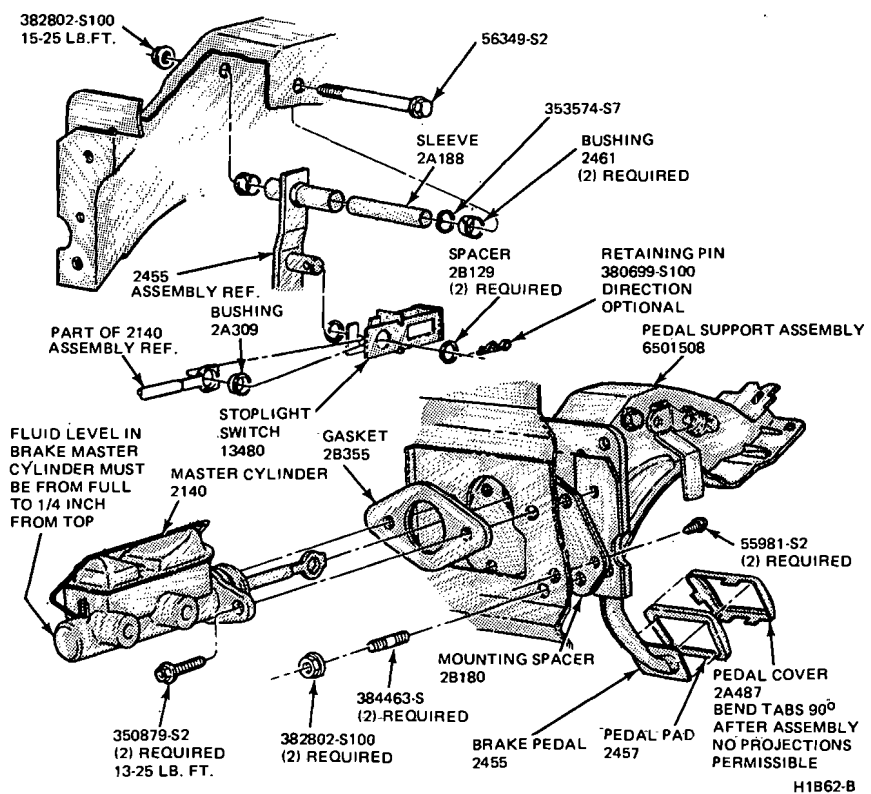

FIG. 11 Master Cylinder and Brake Pedal Installation—Non-Power Brake—Mustang and Cougar
- Install the inner nylon washer, the master cylinder or booster push rod, and the bushing on the brake pedal pin. Position the switch so that it straddles the push rod with the switch slot on the pedal pin and the switch outer hole just clearing the pin. Slide the switch completely onto the pin, and install the outer nylon washer as shown in Figs. 11, 14 and 16. Secure these parts to the pin with the self-locking pin.